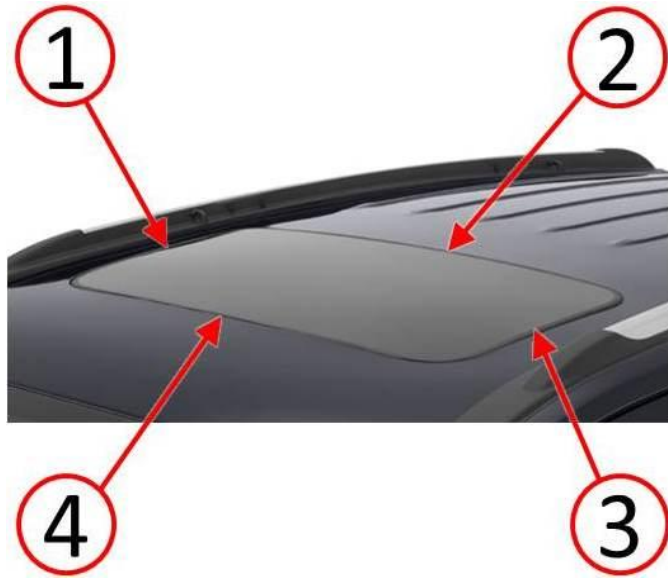

Fig. 9 Center Sunroof Glass Panel In Opening
15. Center the sunroof glass panel in the roof opening; visually verify that the space between the glass panel and the roof opening appears equal on all sides (1, 2, 3, 4) (Fig. 9).